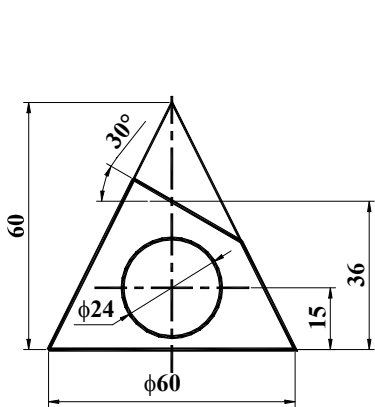

Figure T9.1
1. A right circular cone is cut as shown in Figure T9.1. Develop its lateral surface.